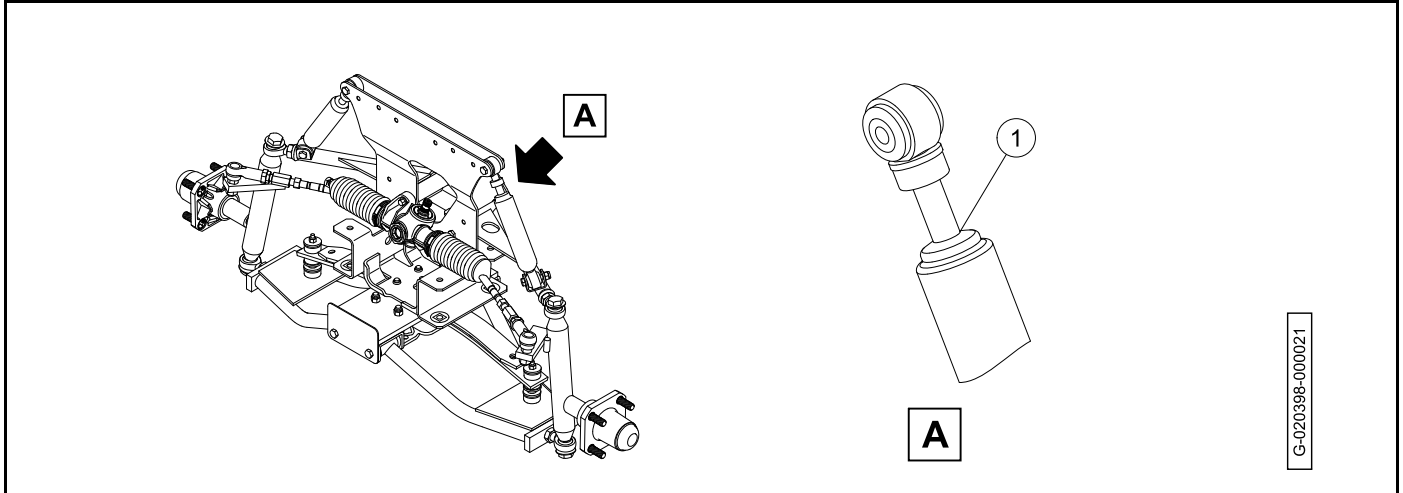

Figure 7-46
1. Examine the area (1) where the shaft enters the shock absorber body (**Figure 7-46**).